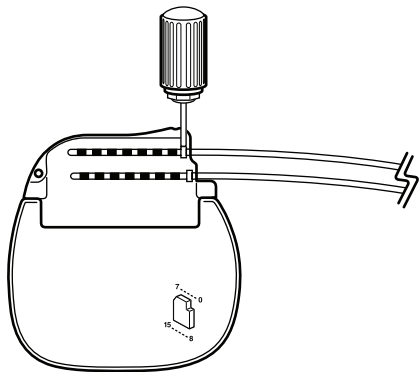

Figure 2. Tightening the setscrews in the self-sealing grommet.
- For each extension, lead, or plug, fully insert the torque wrench (packaged with the rechargeable neurostimulation system) into each self-sealing grommet of the connector block and tighten each setscrew (Figure 2).